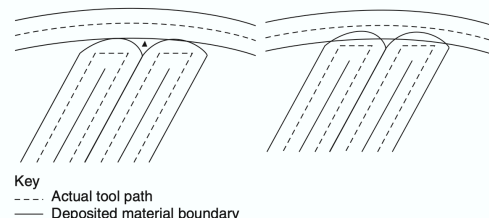

Fig. 6.5 Extrusion of materials to maximize precision (*left*) or material strength (*right*) by controlling voids
- different layering strategies result in different strengths (for instance, right-hand scanning strategy stronger parts than left-hand (see Figure 6.5))